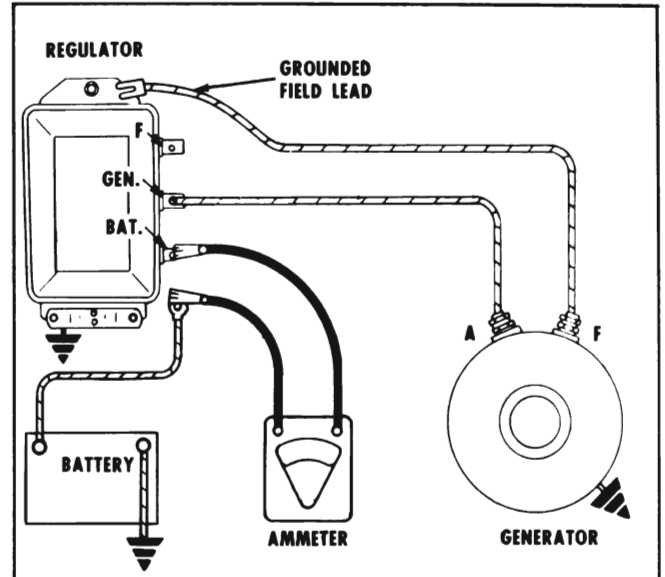

Figure 10-12—Testing Regulator for Oxidized Points
3. Disconnect field lead from regulator "F" terminal and ground it on regulator base. See Figure 10-12. If ammeter reading increases more than 2 amperes, oxidized contact points are indicated. Regulator should be removed and contact points cleaned before proceeding to any other regulator tests. See paragraph 10-22 for cleaning procedure.